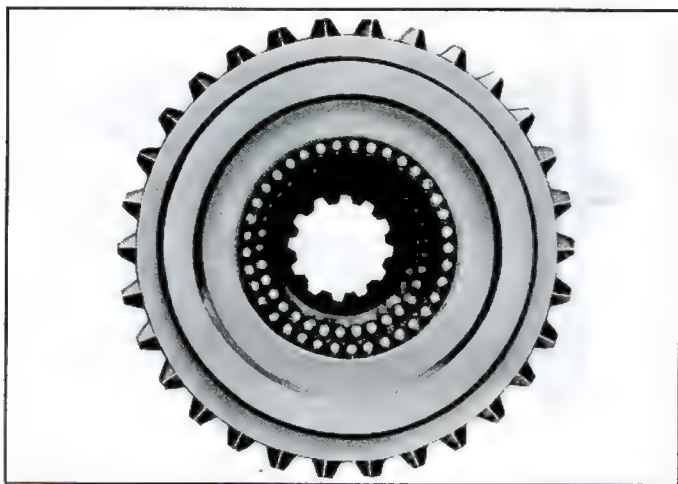

Fig. 7B-15—Mainshaft Roller Bearings Installed in Clutch Gear
bearings from becoming displaced from clutch gear (fig. 7B-15).
9. Carefully slide clutch gear onto mainshaft. It is good practice to place the clutch gear on a bench with its pilot bore upward and insert the mainshaft into the clutch gear. This prevents accidentally dislodging the clutch gear roller bearings. This completes assembly of the mainshaft (fig. 7B-16).